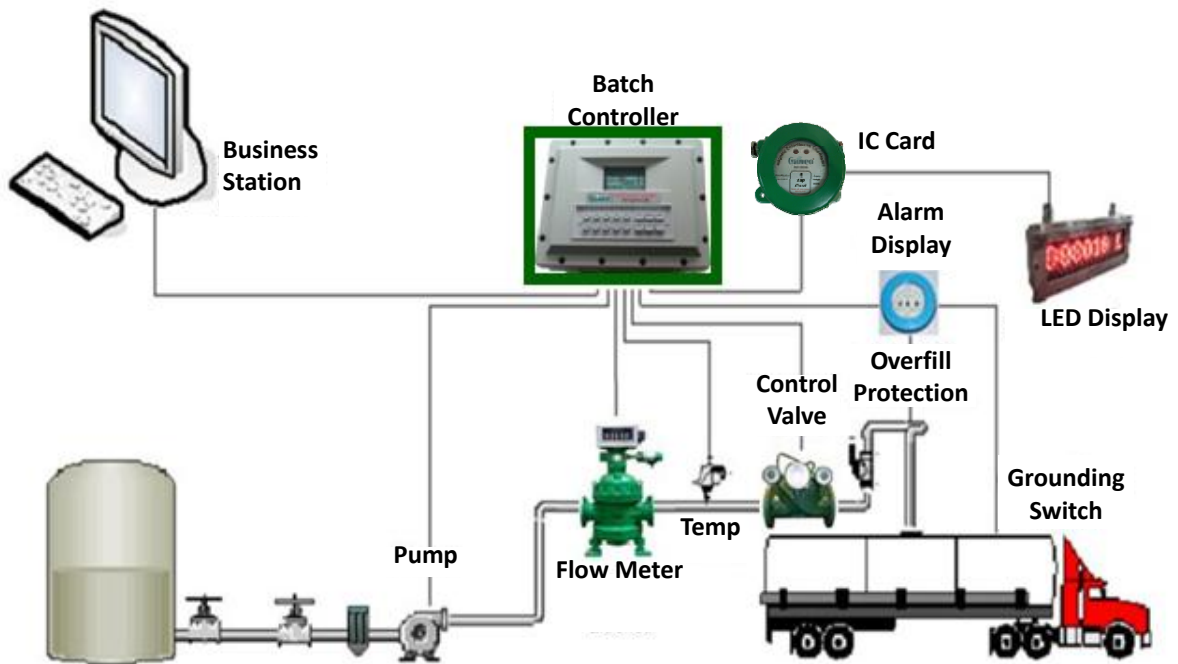

Figure 2: Typical Single Product Loading Application with Growco IDR Reader using Batch Controller through TAS
- Typical Single Product Loading Application with Growco IDR Reader using Batch Controller through TAS is shown as Figure 2: